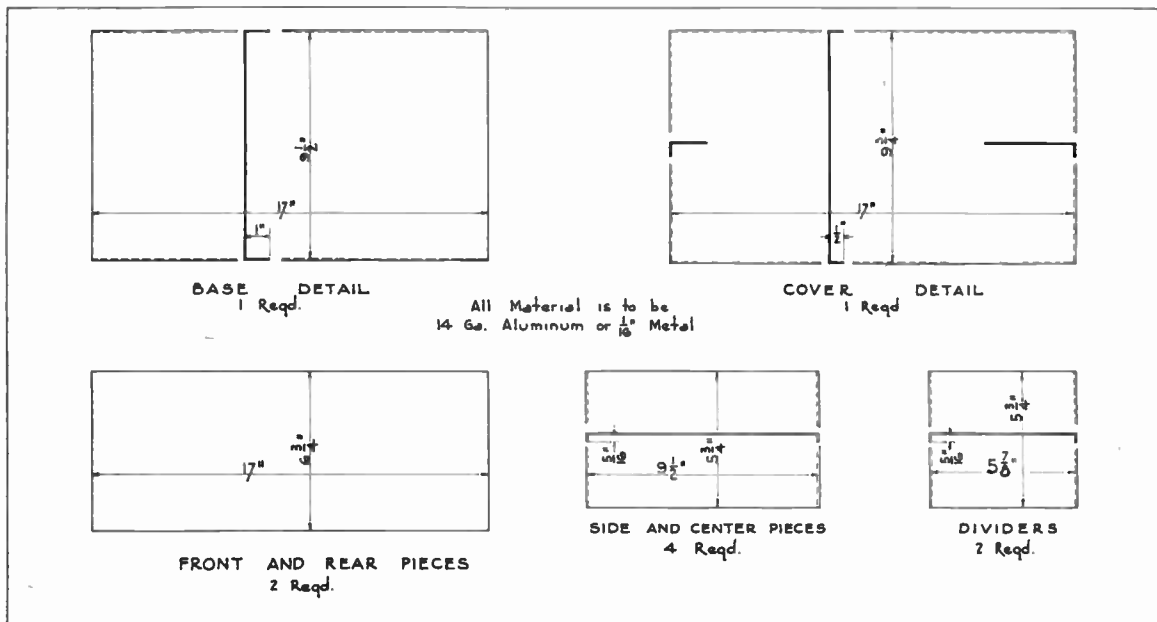

Fig. 43— Layout of shields for R. F. chassis
- Aluminum shields, as shown in Figure 43.